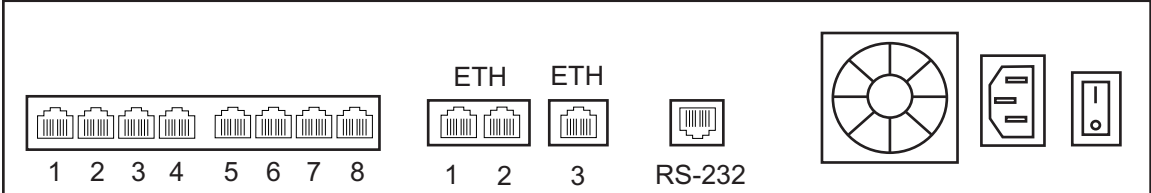

Figure 2.4 8-Port Interface to the PSTN
1. Start with port 1 located at the top and left-most position. Connect one cable between this port and the T1/E1/J1 line (figure 2.4 on page 11).